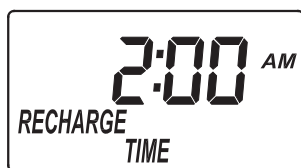

FIG. 21
1. If you completed the previous step, the words "RECHARGE TIME" should show in the display (See Figure 21). Otherwise, press the SELECT button several times until they do.